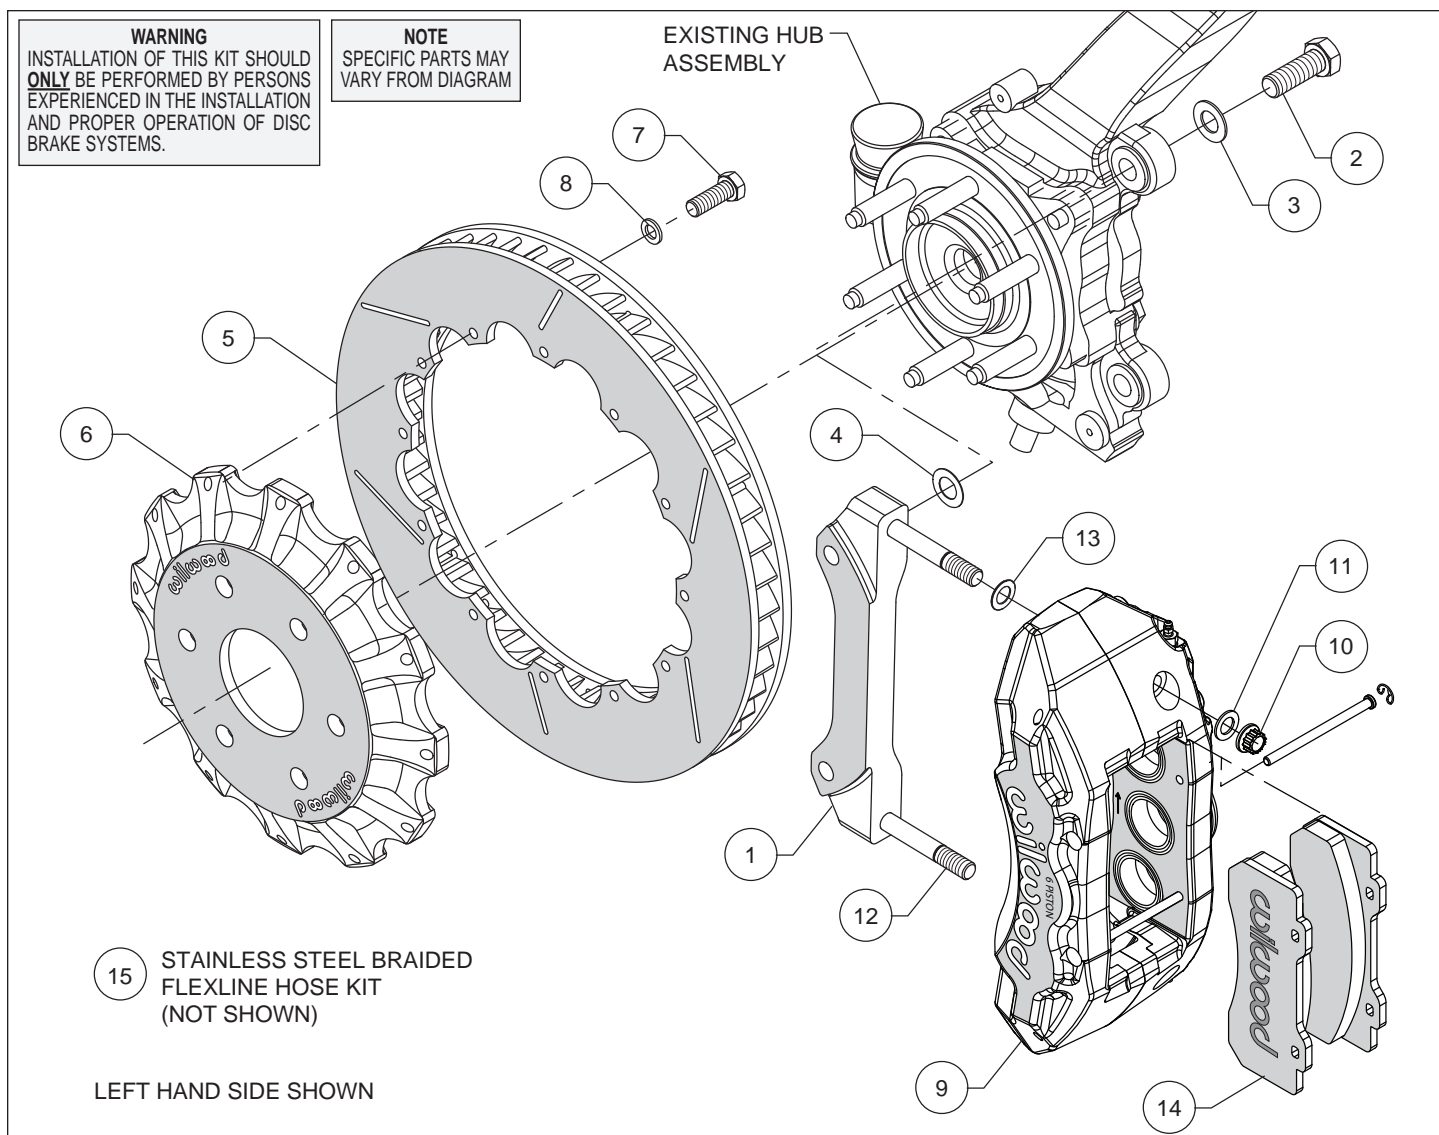
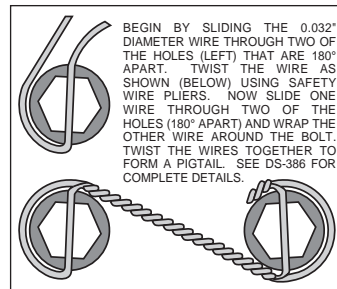

Figure 1. Typical Installation Configuration
Figure 3. Safety Wire Diagram
Assembly Instructions (numbers in parenthesis refer to the parts list and Figure 1 on the preceding pages):
- The caliper mount bracket (1) should initially be installed with clean, dry threads on the mounting bolts. Orient the bracket as shown in Figure 1 and Photo 1, and install using bolts (2) and washers (3). Initially place one .024 thick shim (4) on each bolt between the bracket and upright, Figure 1. Temporarily tighten the mounting bolts. **NOTE:** *The bracket must fit squarely against the mount bosses on the upright.* Inspect for interference from casting irregularities, machining ridges, burrs, etc. Later, after the caliper alignment has been checked, the mount bolts will be secured using red *Loctite*® 271.
- Orient the rotor (5) and the hat (6) as shown in Figure 1 and Photo 2. Attach rotor to hat using bolts (7) and washers (8). Using an alternating sequence, torque to 25 ft-lbs. For an added measure of security, the bolts may be safety wired using standard 0.032 inch diameter stainless steel safety wire as shown in Figure 3. Refer to Wilwood's data sheet DS-386 (available at www.wilwood.com/Pdf/DataSheets/ds386.pdf) for complete safety wire installation instructions.
- NOTE:** *This kit contains distinct right and left hand calipers that must be mounted in a specific direction, as described below.* Lubricate the caliper mounting studs (12) with lightweight oil. Initially place one .032" thick shim (13) on each stud as shown in Figure 1 and Photo 3. Mount the caliper (9) onto the bracket (1) using lock nuts (10) and washers (11), Figure 1. Ensure that the caliper is mounted so that the largest pistons are at the rotor exit end of the caliper, in relation to the direction of rotor rotation. Temporarily tighten the lock nuts and view the rotor through the top opening of the caliper. The rotor should be centered in the caliper, Photo 4. If not, adjust by adding or subtracting shims (4) between the bracket and the upright. Always use the same amount of shims on each of the two mounting bolts. Once the caliper alignment is correct, remove the bracket mounting bolts (2) one at a time, apply red *Loctite*® 271 to the threads, and torque to 120 ft-lb.